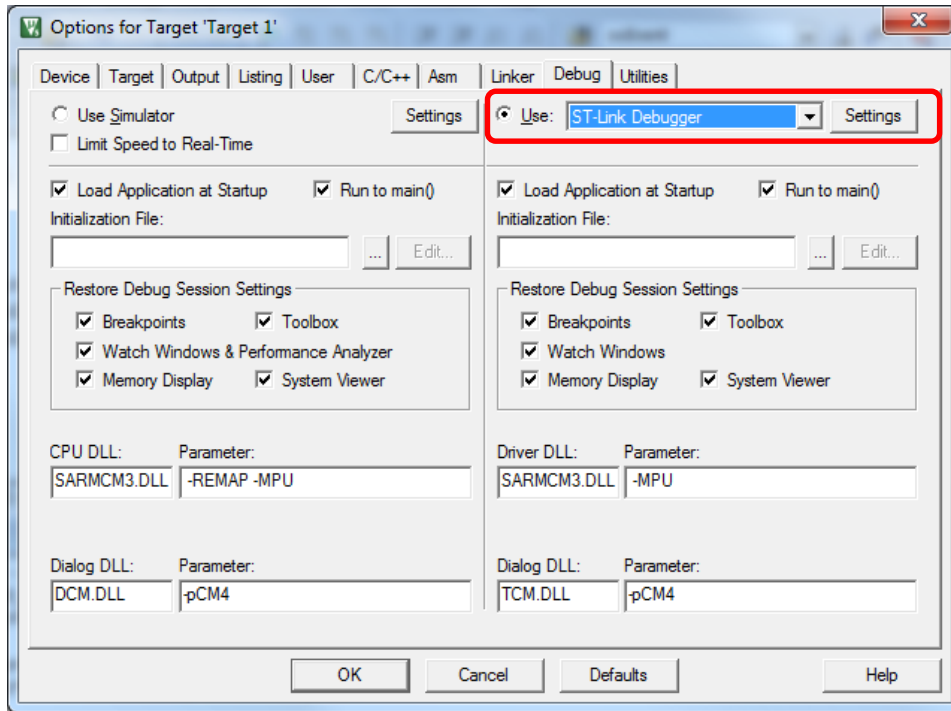

Figure 5. Target Options Debug tab. “Use ST-Link Debugger” selected.
- Select the **Debug** tab (Figure 5), check the Use button and select **ST-Link Debugger**.